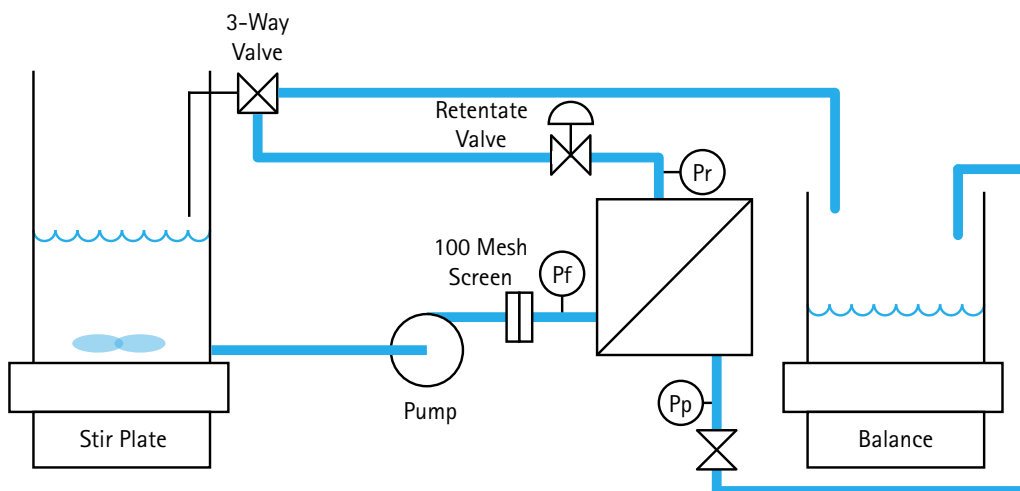

Figure 2. Single-Pass Filtrate Open mode (SPFO) Arrangement
2.2 Arrange the system flowpath into the Single-Pass Filtrate Open mode (SPFO) as shown in Figure 2.
- 2.10 Stop the pump after the CIP time interval. Return the system flowpath to the SPFO mode (Figure 2). Start the pump again and pump the feed vessel out to the receiver vessel. When CIP solution level in the feed vessel had been minimized, stop the pump before air is entrained into the system.
- 5.1 Arrange the system flowpath into the Single-Pass, Filtrate Open mode (Figure 2). Open the permeate isolation valve.